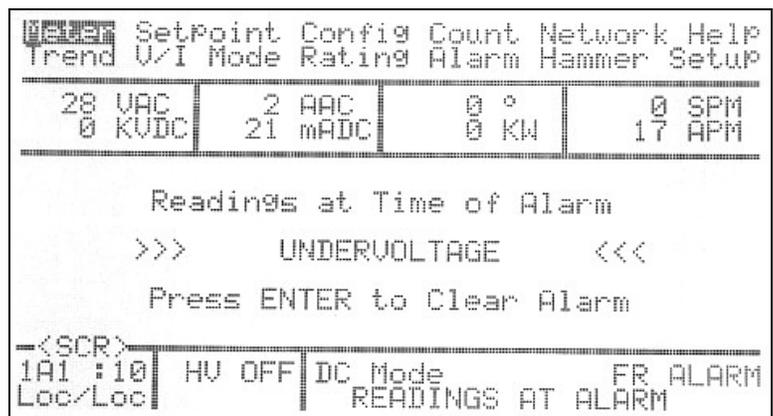

Figure 2-3
- an alarm message on screen (see fig. 2-3) regardless of the display you're currently viewing